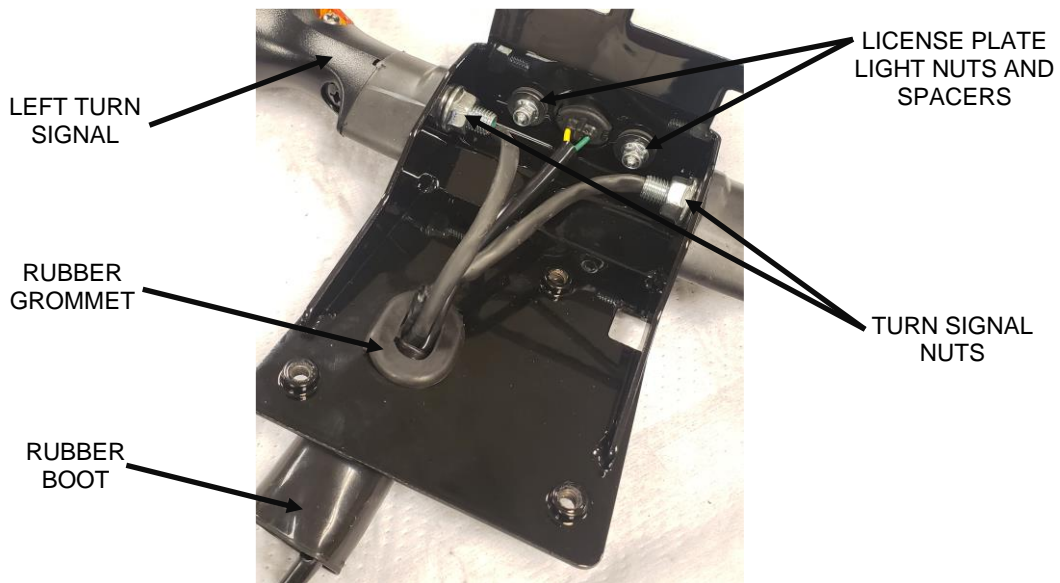

FIGURE 7
10. Install the license plate light and secure with the two stock nuts and spacers from Step 8. Make sure the light is positioned properly to shine down on the license plate. Tighten securely. See **Figure 7**.
11. Feed the turn signal electrical clips through the holes on either side of the license plate relocater and install the turn signals using the stock nuts from Step 7. Make sure the orientation of the turn signals is correct. Tighten securely. See **Figure 7**.
12. Reattach the four stock electrical clips from Step 6. Make sure to correctly match the clips to their corresponding colors and check that the clips are connected securely. HINT: Use needle nose pliers to help insert the male end of the clips into the female clips. Slide the rubber boot back over the electrical clips and ensure there are no exposed clips. See **Figure 7**.
13. Feed the electrical plug and the rubber boot covering the electrical clips up through the rubber grommet in the license plate relocater. See **Figure 7**.